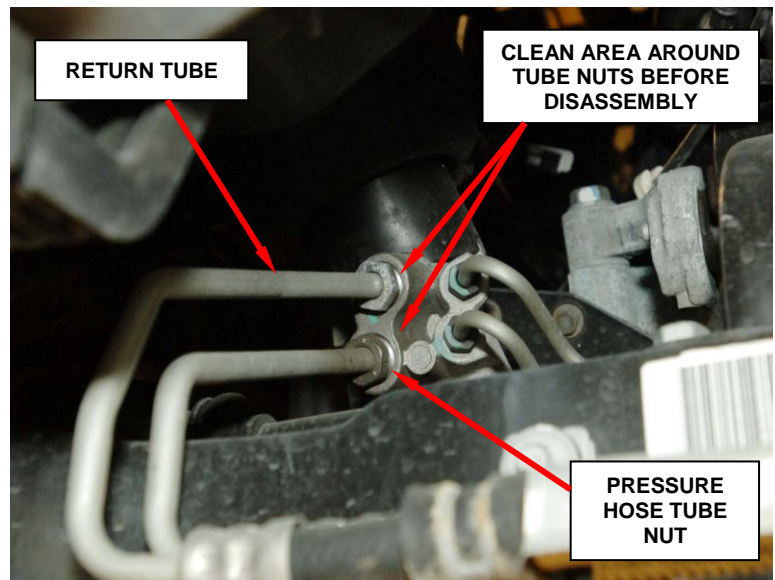

Figure 4 – Tube Nut at Steering Gear
9. Using Mopar Brake Parts Cleaner (or equivalent) and compressed air, clean the area where the power steering pressure and return hose tube nuts screw into the steering gear (Figure 4).
10. Unscrew the tube nut and then remove the power steering pressure hose at the steering gear (Figure 4).